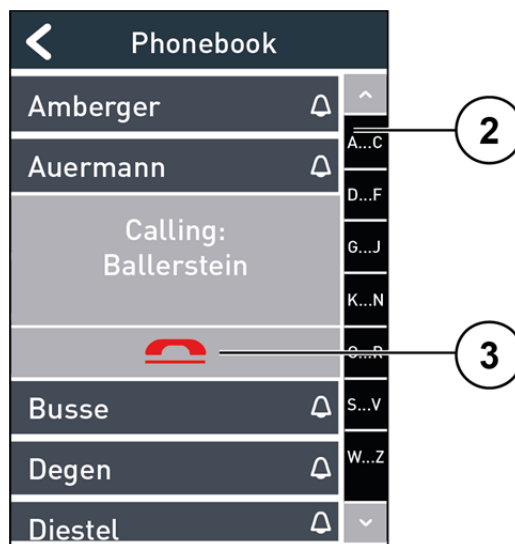

Fig. 22: Make a call
- Alternatively you can jump to the contact with the selected initial letter (2) by tipping the initial letter (Fig. 22).